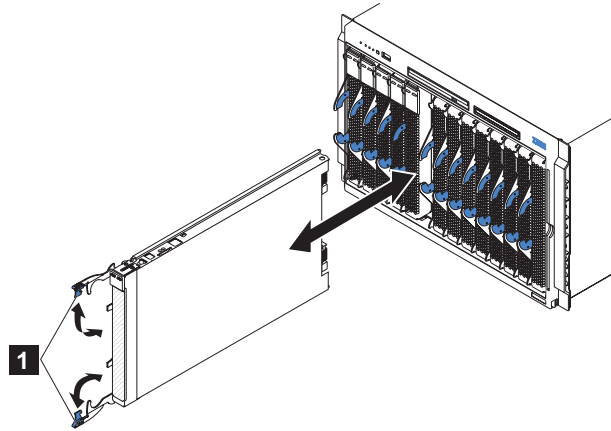

Figure 11. Removing the blade server from the BladeCenter unit
5. Open the two release handles, as shown by **1** in Figure 11. The blade server moves out of the bay approximately 0.6 cm (0.25 inch).